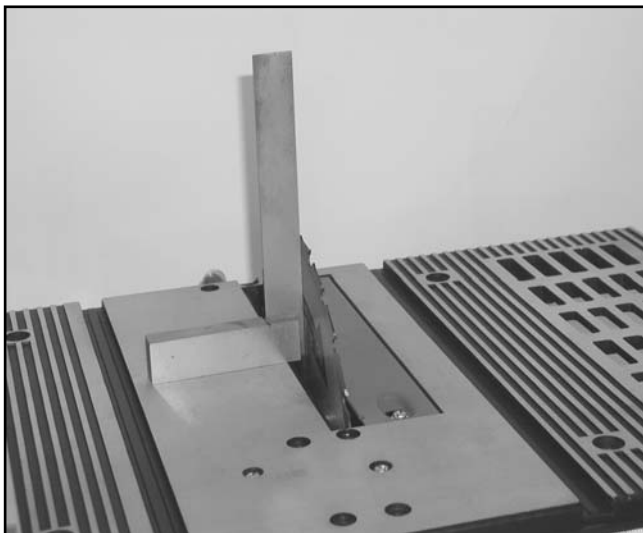

Figure 17. Checking blade angle.
3. Turn the tilting handwheel as far as it can go clockwise. Place a square against the blade. See **Figure 17**.